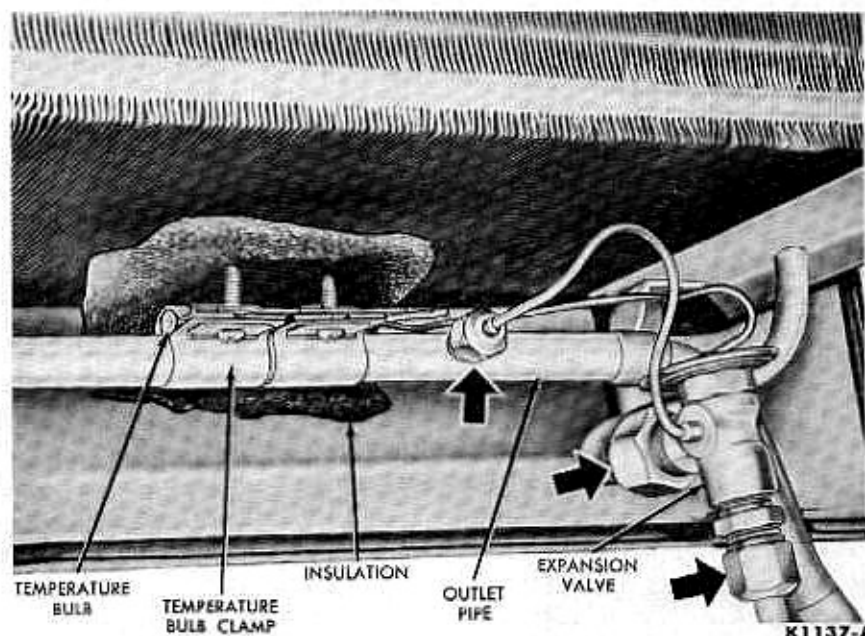

FIG. 45—Evaporator Connections
Removal. Remove the evaporator covers. Carefully slit the insulation that covers the temperature bulb and remove the insulation (Fig. 45). Remove the temperature bulb clamp.
orator core 8 inches. Disconnect the expansion valve at the three fittings indicated by the large arrows (Fig. 45). When disconnecting the valve from the evaporator connections, always use two wrenches in order not to put excessive pressure on the pipe connections.
Installation. Place the new valve into position and connect it to the three fittings indicated by the large arrows (Fig. 45). Clamp the temperature bulb to the outlet pipe, and
3. Attach the refrigerant hoses to the evaporator (Fig. 45).